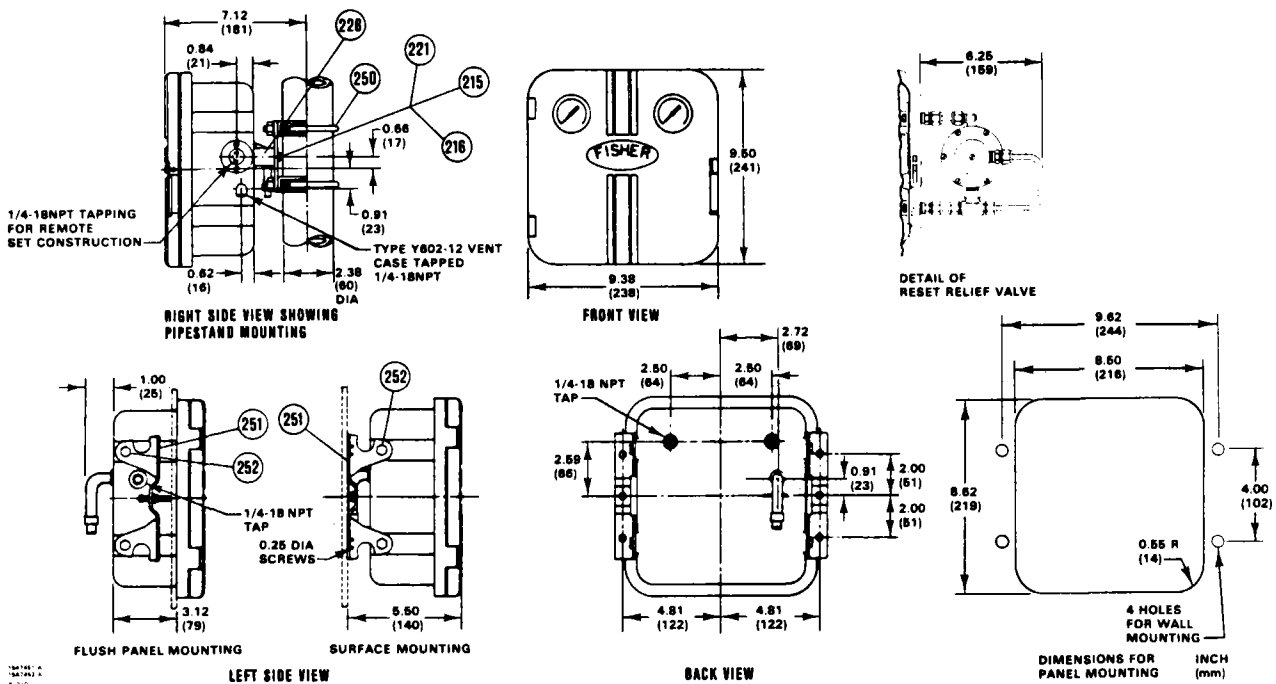

Figure 2. Panel, Wall, and Pipestand Mounting
the vent (key 15, figure 12) is facing downward. For panel mounting, cut a hole in the panel surface using the dimensions shown in figure 2. Remove cap screws (key 252, figure 2), brackets (key 251, figure 2), and vent (key 15, figure 12). Slide the controller into the cutout and re-attach the brackets. Tighten the cap screw located in the center of each bracket to draw the case snugly and evenly around the panel. Re-install the vent unless the vent connection is to be piped away.
For wall mounting, drill four holes in the wall using the dimensions shown in figure 2. Mounting holes in the bracket are 11/32-inch (8.7 mm) diameter holes. Back out the cap screw located in the center of each bracket. If the capillary tube is to run through the wall, drill a hole in the wall large enough to accept the temperature bulb (see figure 3 for bulb dimensions). See figure 2 for the location of the capillary tube connection in the back of the case.
Provide four suitable bolts or screws to attach the bracket to the wall. Mount the controller to the bracket using four cap screws (key 252, figure 2).
For pipestand mounting, attach spacer spools and mounting plate (keys 228 and 213, figure 2) to the controller with cap screws, lock washers, and nuts (keys
215, 221, and 216, figure 2). Attach the controller to a 2-inch (nominal) pipe with pipe clamps (key 250, figure 2).
All pressure connections on 4156 and 4166 Series instruments are 1/4-inch 18 NPT female. Use 1/4-inch or 3/8-inch pipe or tubing for supply, output, and remote set point piping. Use 1/2-inch pipe for the remote vent pipe, if one is required. Locations of pressure connections are shown in figure 2.